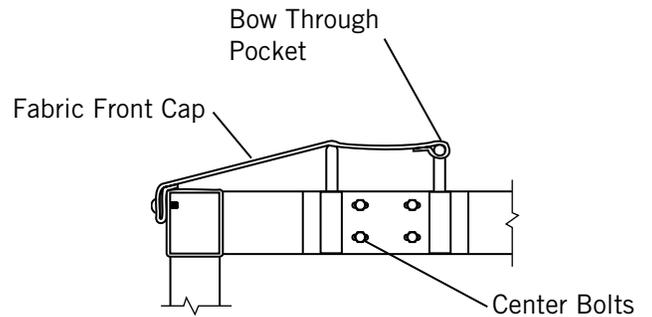

Figure 7-1
- 5) **Figure 7-1.** Feed bow through pocket of fabric cap and install on trailer. On adjustable bows remove bolt and pin. Orient the bow so the end with the removable pin is on the passenger side.